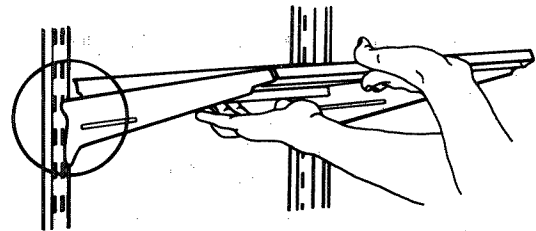

Figure 30
- c. Insert metal hooks at back of shelf into desired slot in metal track on back wall of freezer. See Figure 30.